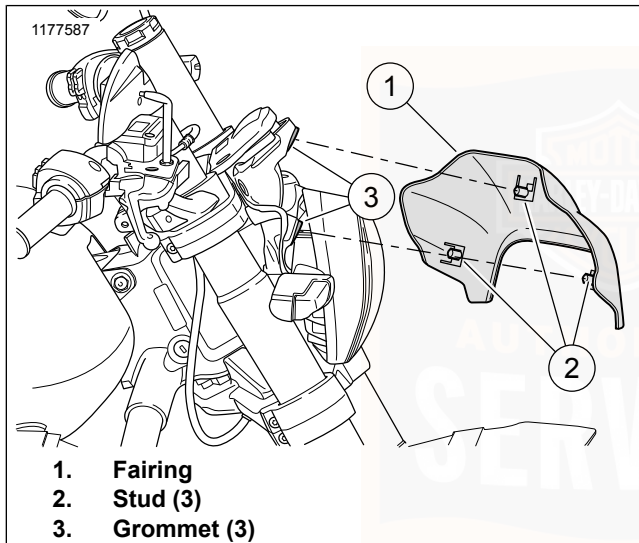

Figure 46. Fairing
1. See Figure 46. Remove fairing.
- a. Pull fairing (1) forward to release mounting studs (2) from grommets (3).